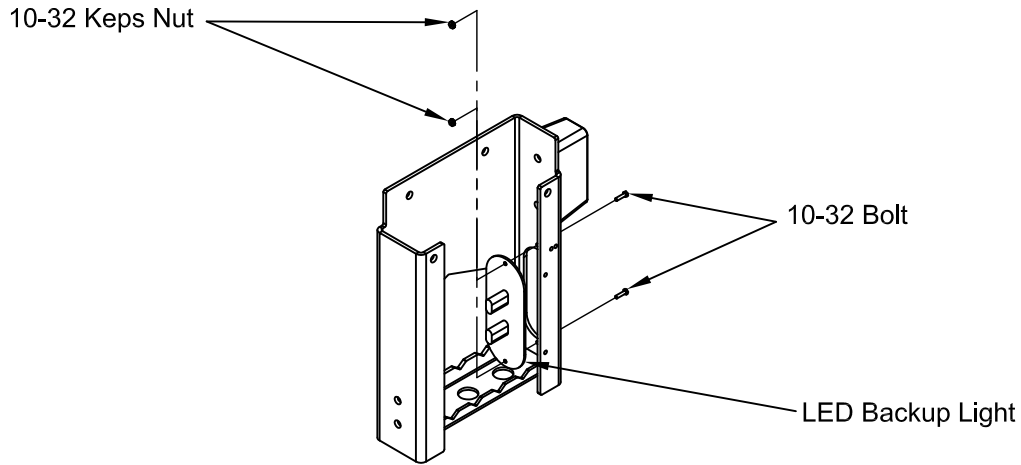

Figure 4
4. Bolt the light inside the side step with the provided two (2) 10-32 bolts and 10-32 keps nuts (Figure 4).